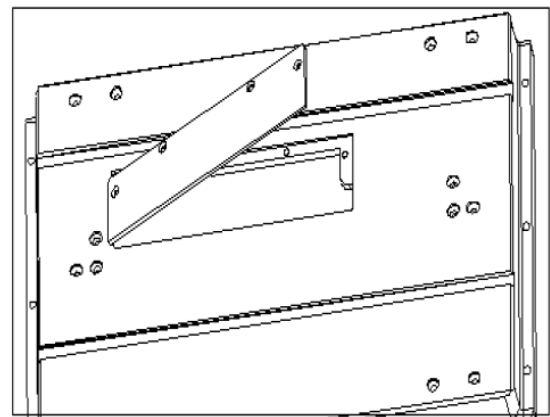
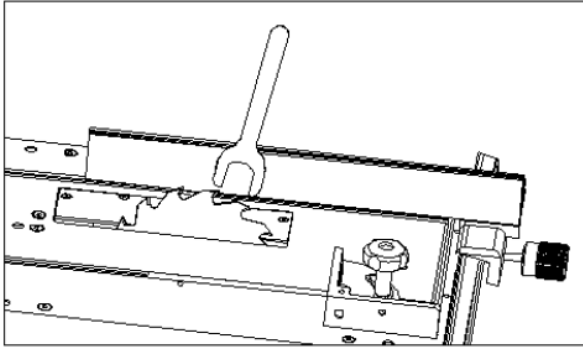

Fig.3
Fig.4
- 1) Block the spindle using the current sawing tool and remove the flange (Fig. 3, Fig. 4). Ensure all components are thoroughly cleaned before reassembly.